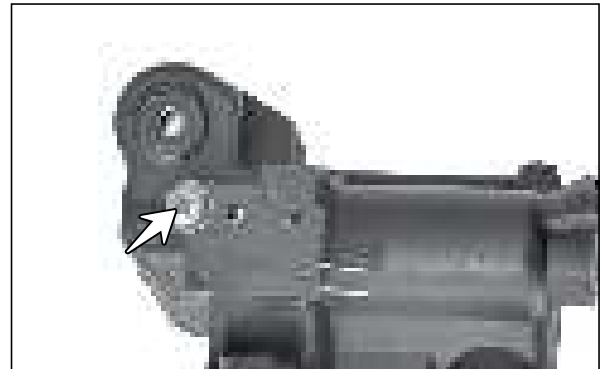

Fig. 6.39
- Remove the mounting screw of stop lamp switch and take out the stop lamp switch. (Fig. 6.39)